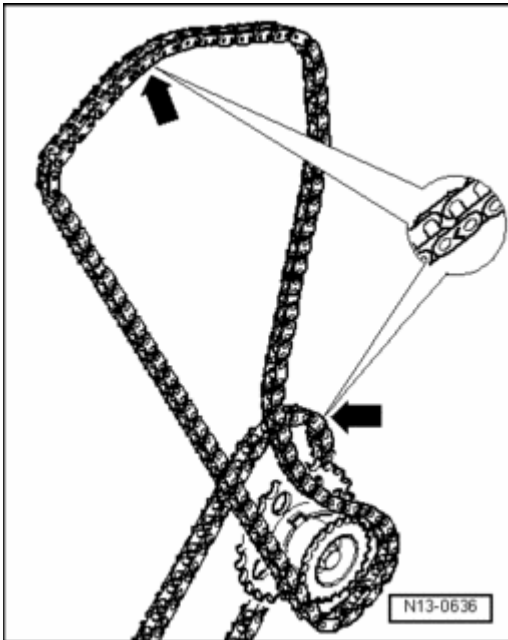

Fig. 157: Identifying Markings On Roller Chains
- Mark rotation direction before removing. See **Fig. 157**